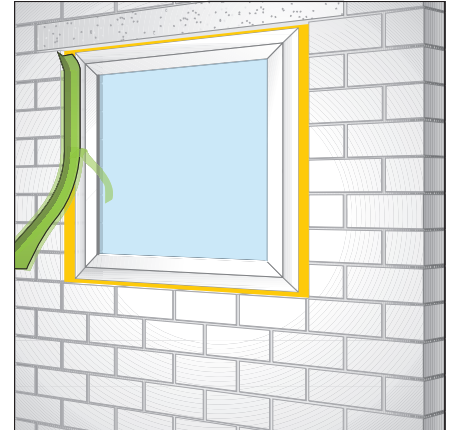

Fig 1: Bond membrane to face of frame
- The membrane should be bonded to the internal face of the frame, applying in individual strips to each side and allowing an extra 50 mm in length to allow for lap jointing at the corners (fig 1). Alternatively, it is possible to fix continuously around the frame by carefully folding the membrane at the frame corners and finally making a lap joint to close the beginning and end sections.
- The membrane should be bonded to the external face of the frame, applying in individual strips to each side and allowing an extra 50mm in length to allow for lap jointing at the corners (fig 1). Alternatively, it is possible to fix continuously around the frame by carefully folding the membrane at the frame corners and finally making a lap joint to close the beginning and end sections.